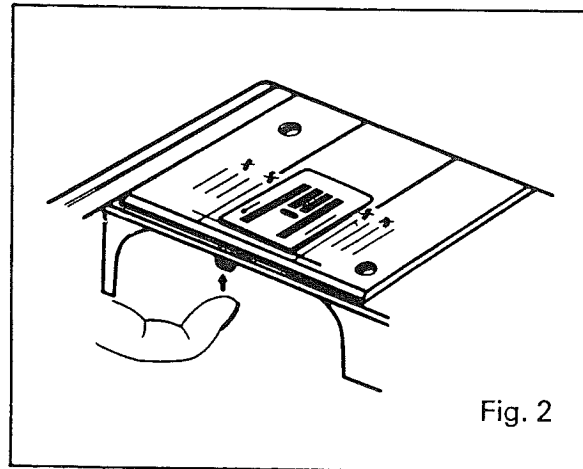

Fig. 2
5. Replace the needle plate insert positioning as shown in Fig 2.